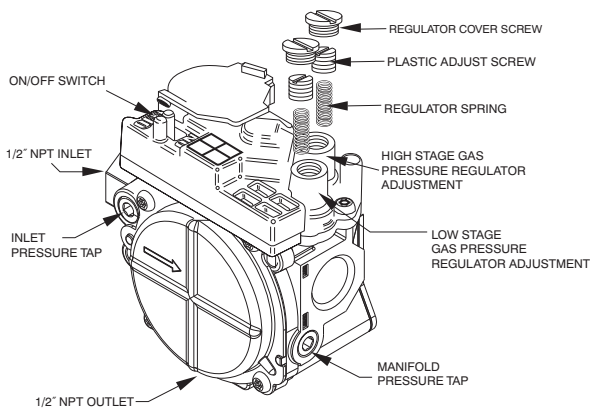

Fig. 13 - Two-Stage Gas Valve
1. Remove regulator cover screw(s) over plastic adjustment screw(s) on gas valve (Fig. 13).
2. Turn the high stage plastic adjustment screw clockwise to increase gas input and counterclockwise to decrease input (see Fig. 13). Manifold pressure must be between 3.2 and 3.8 IN. W.C. for high stage.
3. Replace high stage regulator cover screw on gas valve (see Fig. 13).
4. Turn the low stage plastic adjustment screw clockwise to increase gas input and counterclockwise to decrease input (see Fig. 13). Low stage manifold pressure must be between 1.4 and 2.0 IN. W.C.
5. Replace low stage regulator cover screw(s) on gas valve (see Fig. 13).